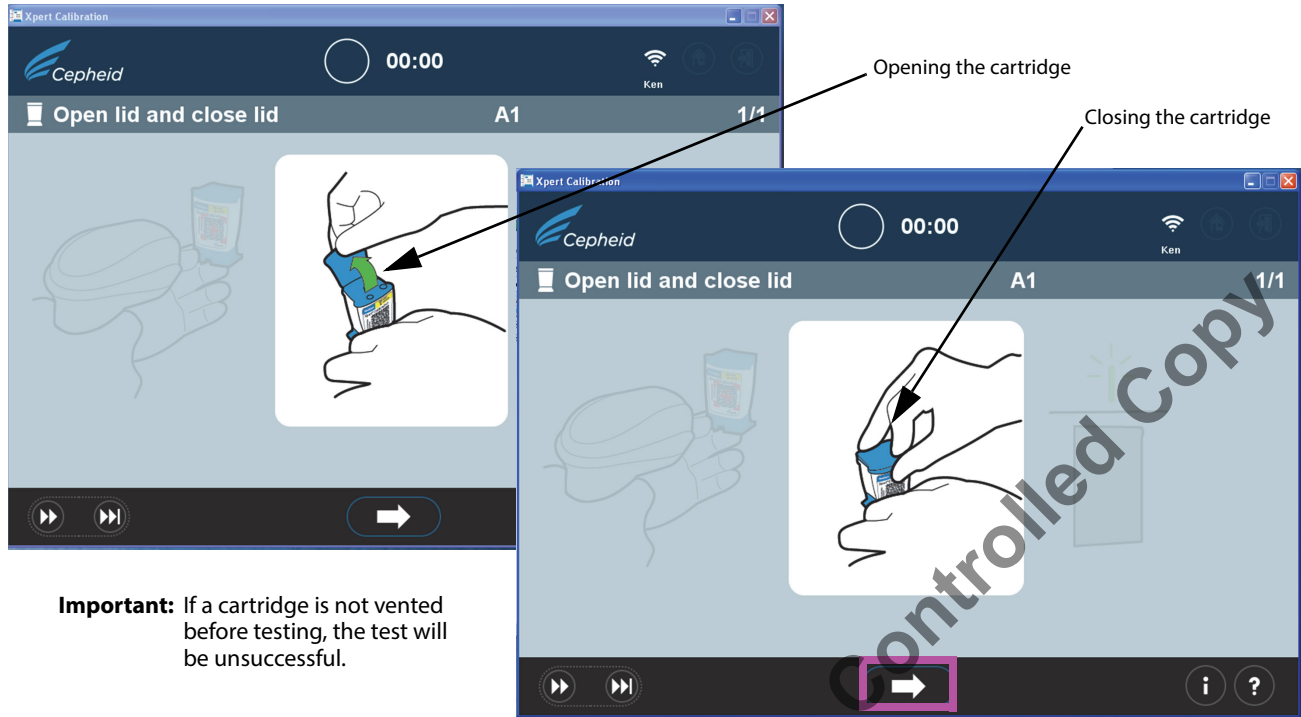

Figure 14. Venting the Cartridge by Opening and Closing the Cartridge Lid - Animated Screen
- b. Venting the cartridge (shown in Figure 14), for two seconds is sufficient. This screen is animated, showing the cartridge lid being opened and closed. After venting, click the forward arrow at the bottom of the screen to continue.